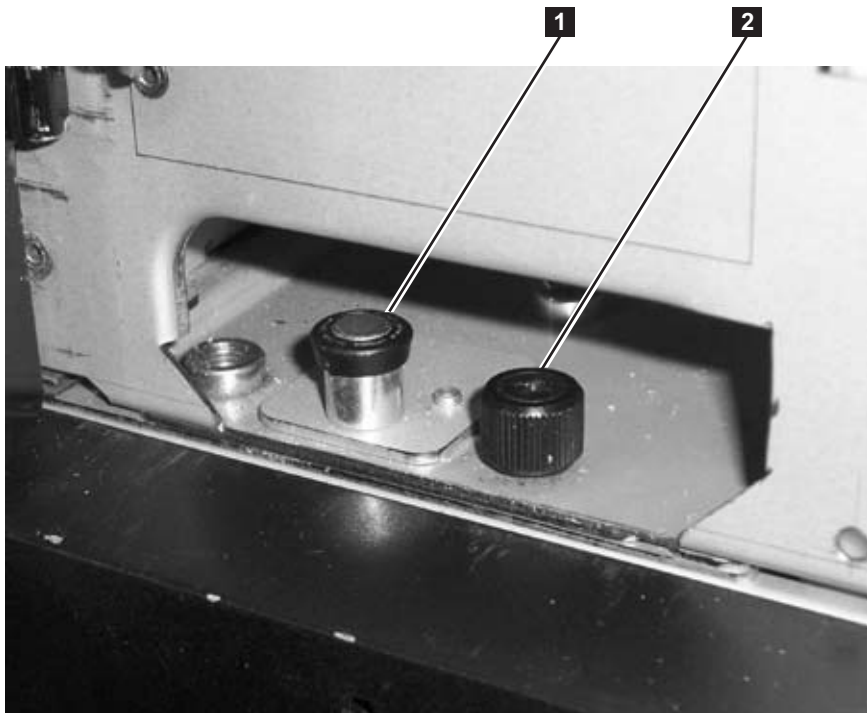
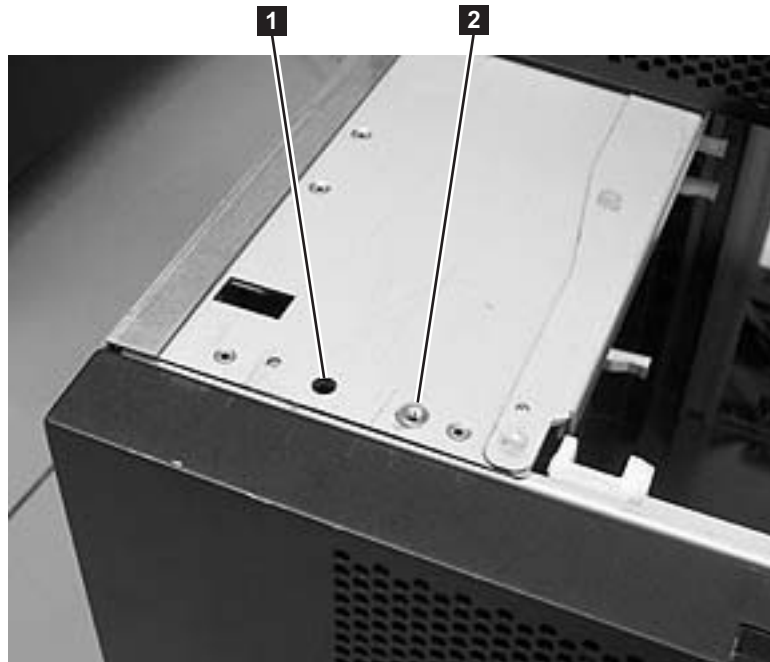

Figure 12-4. Alignment pin and front thumb screw
Figure 12-6. Alignment pin and front thumb screw receptacles
9. Open the I/O Station door then the Access Door of the control module to expose the control module alignment pin (**1** in Figure 12-4 on page 12-6) and front thumb screws (**2** in Figure 12-4 on page 12-6) behind the Access Door and behind the I/O Station door.
2. Ensure that the module-to-module alignment pin (**1** in Figure 12-4 on page 12-6) is in the raised position. If necessary, raise the pin and rotate it half a turn to lock it in the raised position.
6. Twist the control module alignment pin (**1** in Figure 12-4 on page 12-6) to unlock it from the up position.
7. Adjust the control module's position on top of the expansion module until the control module alignment pin drops into the alignment pin receptacle (**1** in Figure 12-6) in the lower expansion module.
8. Tighten the front thumb screw (**2** in Figure 12-4 on page 12-6) to secure the front of the control module to the lower expansion module (**2** in Figure 12-6).